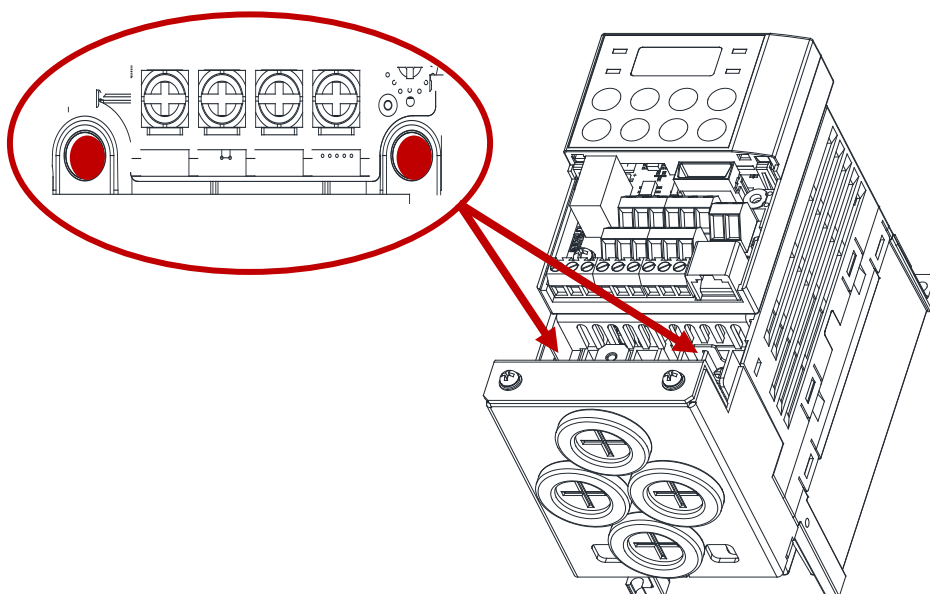

Figure 2. Install and Front Viewing
- ② Fasten the Conduit Option to fit on the ground terminals of the product using the prescribed bolt as shown in the Figure 2.